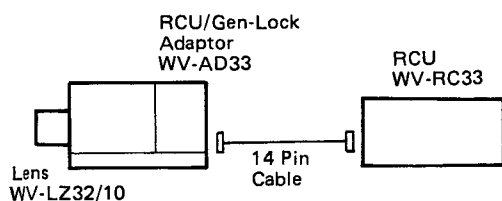

Fig. 5-8-2
- o Connect the oscilloscope to the terminated VIDEO OUT connector on the rear of RCU WV-RC33 or connect the VIDEO OUT connector on the rear of RCU WV-RC33 to the waveform monitor. (Fig. 5-8-2)